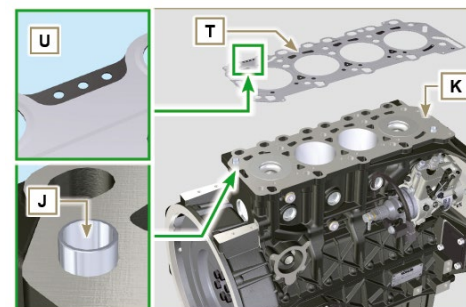

Fig 9.47
4. Based on the value detected at point **3**, select the relevant gasket **T** as shown in the **Tab. 9.2** (**Fig. 9.47** detail **U**).